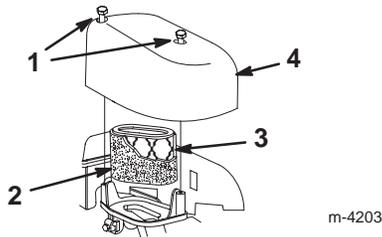

Figure 18
3. Remove the screws that secure the air filter cover (Fig. 18).
4. Remove the cover and clean it thoroughly (Fig. 18).
6. Wash the pre-cleaner with a mild detergent and water, then blot it dry (Fig. 18).
7. Remove the paper air filter and discard it (Fig. 18).
8. Insert the new paper air filter into the foam pre-cleaner (Fig. 18).
9. Install the new air filter (Fig. 18).
10. Install the cover and secure it (Fig. 18).